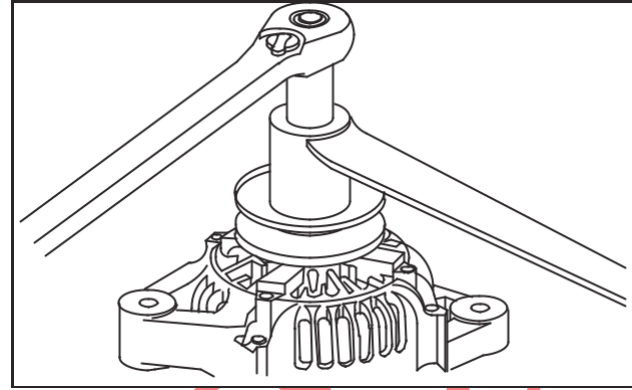

Fig. 22 – Remove Pulley
1. Remove pulley nut using tool #19491 and 10 mm deep socket as shown in Fig. 22.